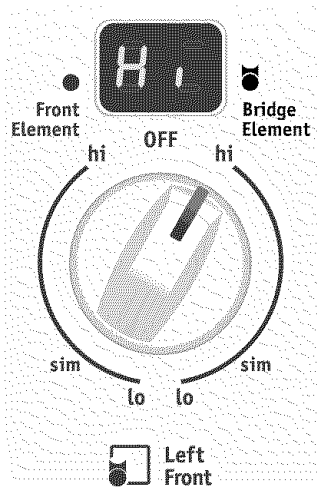

Fig. 3
2. Push in and turn the control knob counterclockwise (See Figs. 1 & 2) to heat the portion of the Bridge element for normal shaped cookware or clockwise (See Figs. 3 & 4) for larger or rectangular shaped cookware.